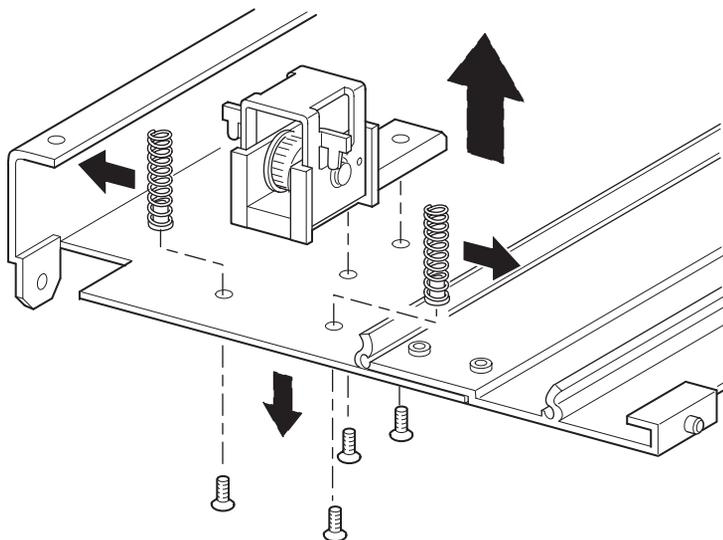

Figure 2–16: Removing the belt tensioner ramp and idler pulley
9. Mount a 5U or 10U extension as follows (see Figure 2–17):